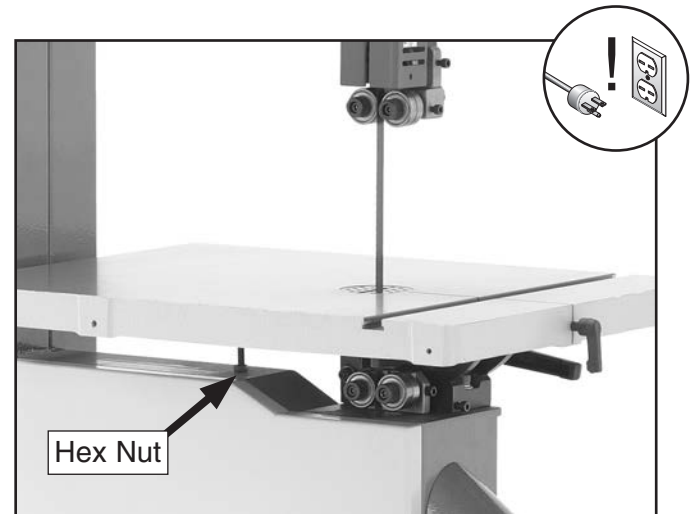

Figure 25. Location of positive stop bolt hex nut.
4. Loosen the hex nut that locks the positive stop bolt in place (see **Figure 25**).